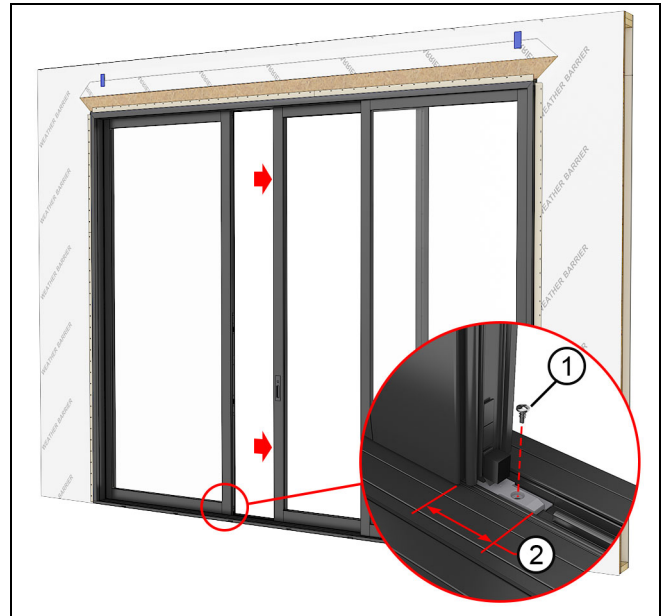

Figure 106
13. Open the operator panel and fasten the first (H) stationary panel sill bracket. The bracket should stick out approximately 2 1/4" from the panel. See Figure 106.